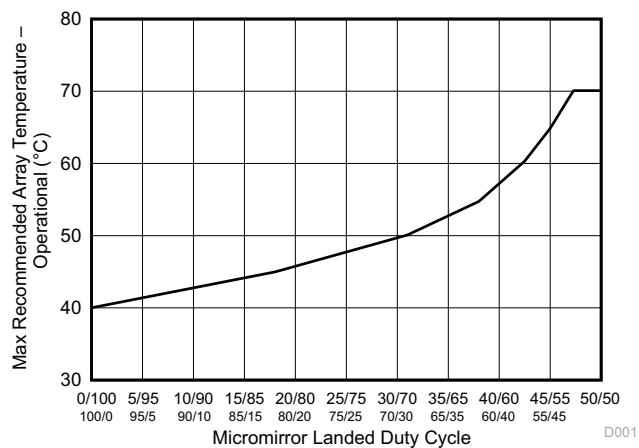

Figure 6-1. Maximum Recommended Array Temperature—Derating Curve
- (12) Per Figure 6-1, the maximum operational array temperature should be derated based on the micromirror landed duty cycle that the DMD experiences in the end application. Refer to Section 7.8 for a definition of micromirror landed duty cycle.
- (13) Long-term is defined as the useful life of the device.
- (14) Short-term is the total cumulative time over the useful life of the device.